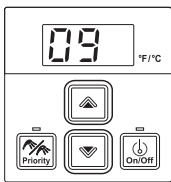

Fig. 2
4. Use the **Up** and **Down** arrows on the controller to scroll through the parameters (Fig.2).